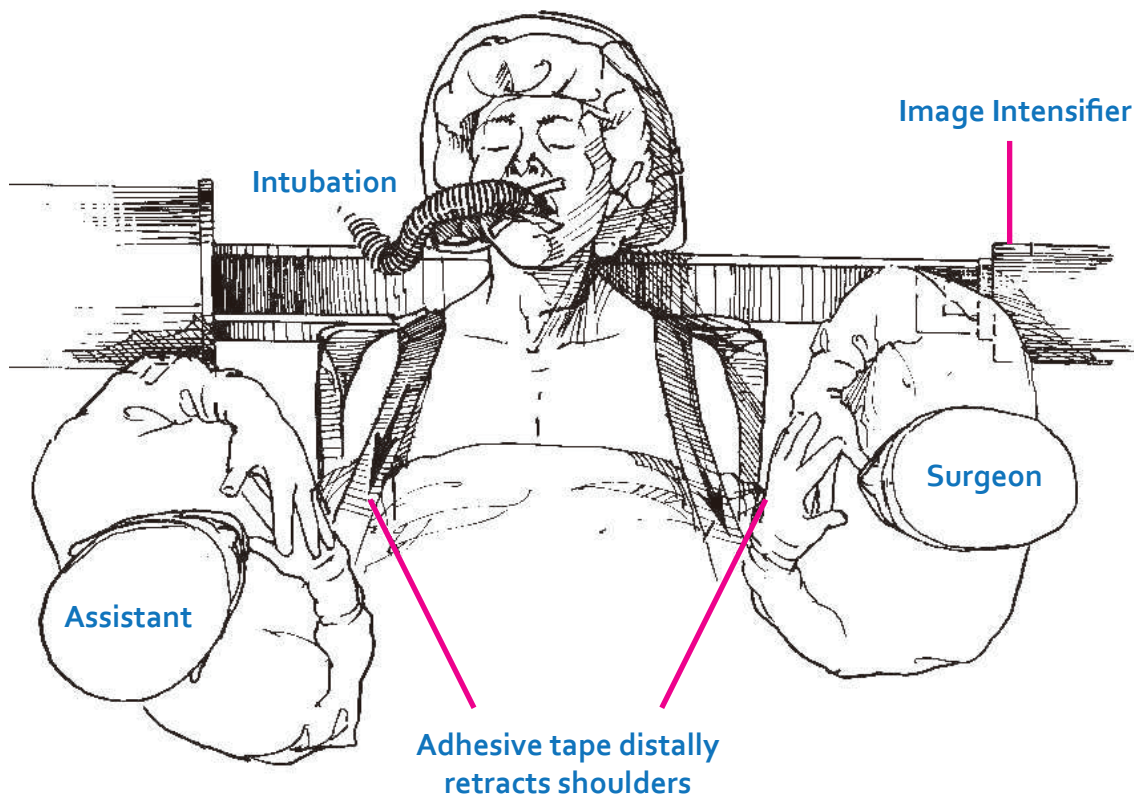

Figure 1
- The patient is placed in a supine position. (Figure 1)